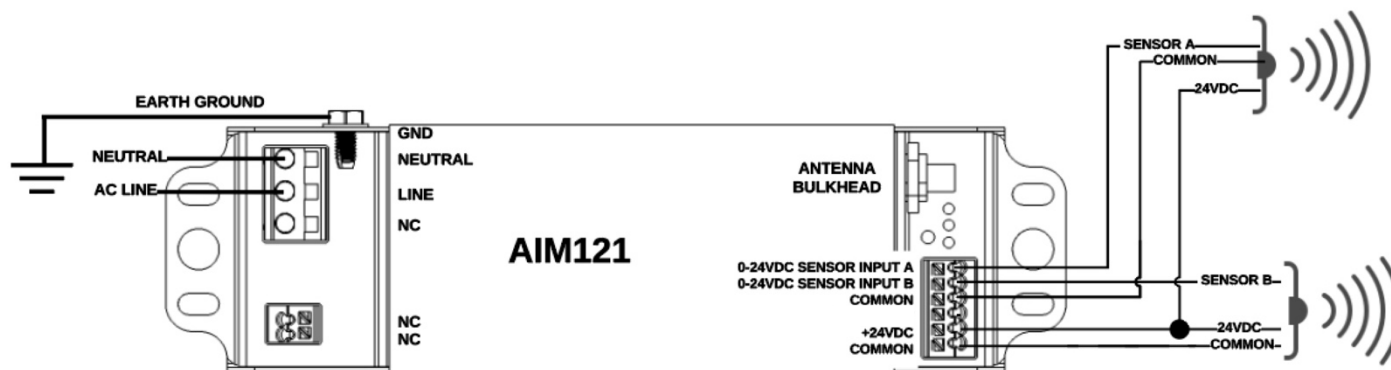

Figure 3 - Wiring Diagram
3. Refer to Figure 3 for connecting sensors (if applicable).
Note: Steps 6 - 9 are for attaching sensors. See Figure 3 for details.